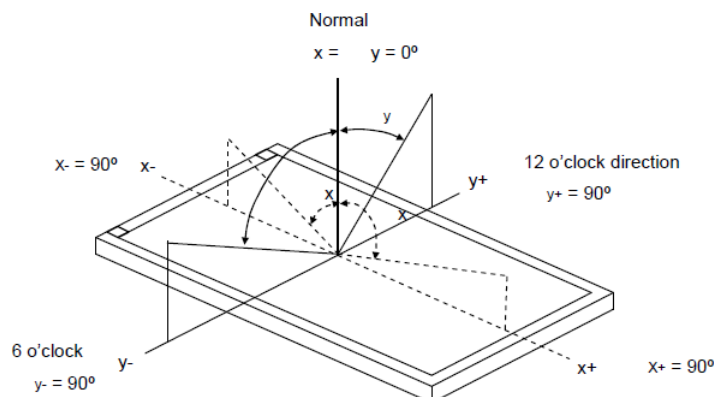

Figure 9. Definition of Viewing angle
(4) Definition of Viewing angle:
As Note (4) the static contrast ratio definition, the viewing angles are defined at the angle that the contrast ratio is larger than 10 at four directions relative to the perpendicular direction of the HKC's module (two vertical angles: up θ_{y+} and down θ_{y-} ; and two horizontal angles: right θ_{x+} and left θ_{x-}). The standard setup of measurement is shown in Figure 9&10.